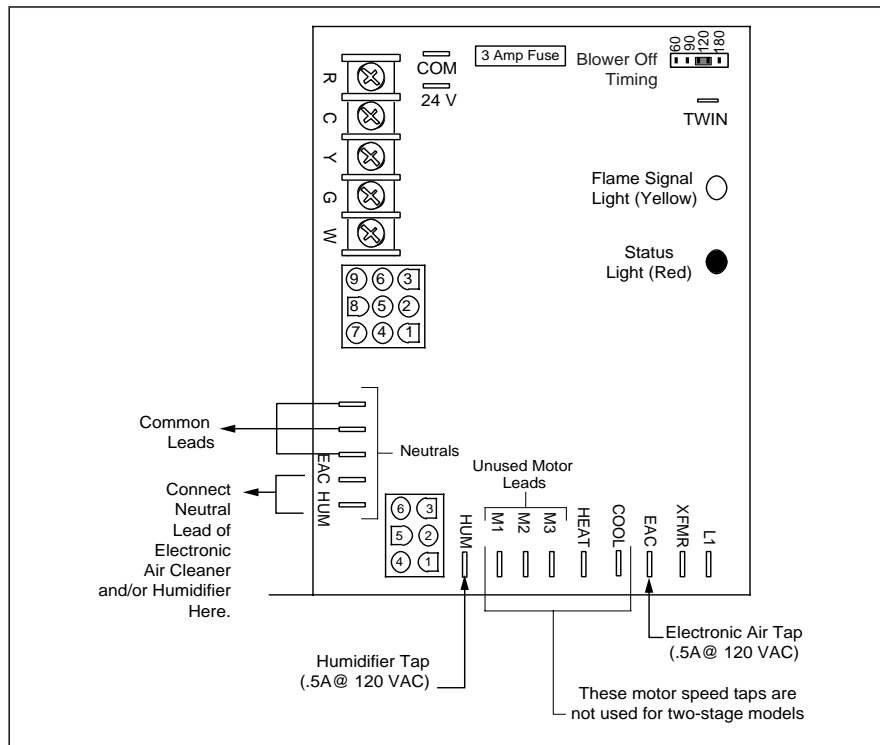

Figure 27. Integrated Control
The integrated control is factory set to start the circulating air blower 30 seconds after the gas valve is opened. The integrated control is factory wired to turn the blower motor off 120 seconds after the gas valve is closed. If necessary for comfort, the "off" time may be changed by adjusting the Blower Off jumper on the integrated control. See Figure 27 for blower on and off time adjustments.
11. The furnace control keeps the circulating air blower energized for 120 seconds (factory set) or 60, 90, or 180 seconds (field adjustable). (See Figure 27.)